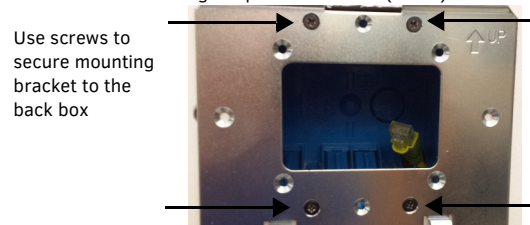

FIG. 2 SECURE THE METAL BRACKET TO BACK BOX
2. Once the back box is installed and secured, secure the metal mounting bracket to the back box using the provided screws (FIG. 2).